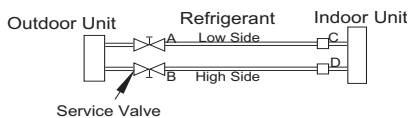

Fig. 11 — Service Valve
1. Completely tighten flare nuts A, B, C, D, connect manifold gage charge hose to a charge port of the low side service valve (see Fig. 11).